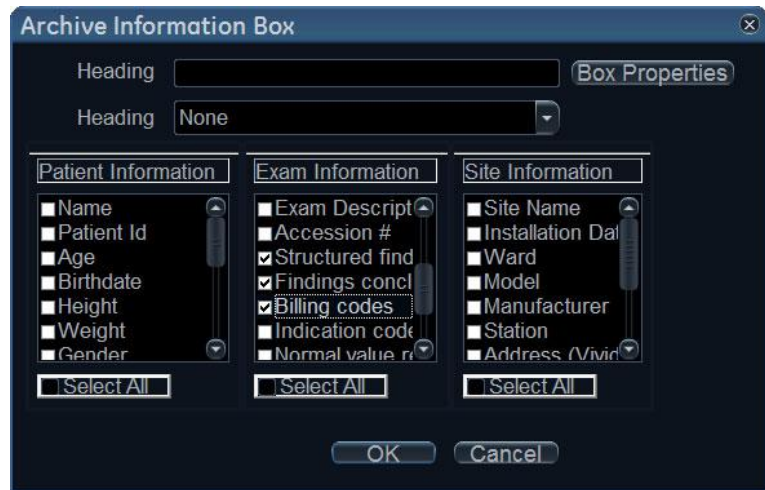

Figure 11-2. The Archive information box
The *Archive information* box is displayed (Figure 11-2).
7. Select **Structured findings**, **Findings conclusion**, **Indication codes** and **Billing codes** in the *Exam Information* field (Figure 11-2).